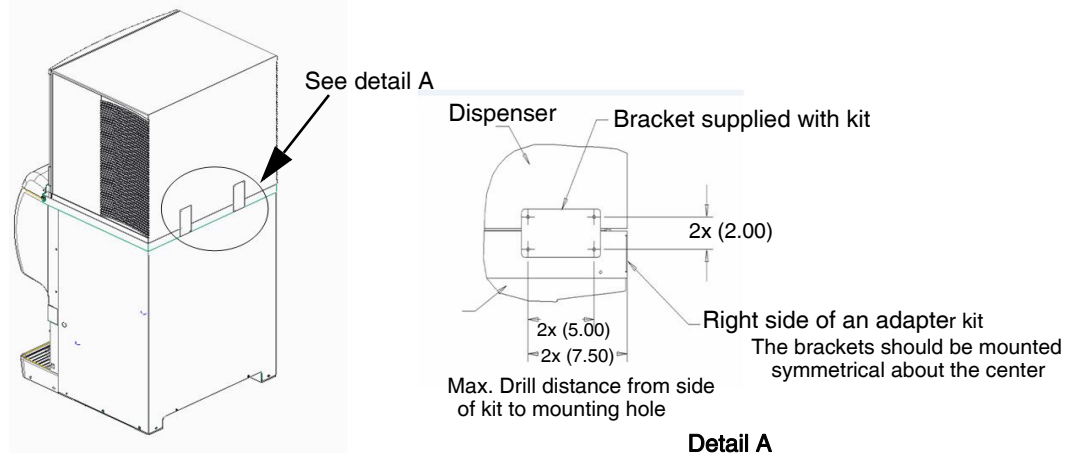

Figure 4. - Ice Maker Security Bracket Installation Kit
Note the following before drilling holes and refer to Figure 4.
- When drilling holes, the maximum distance from the side of the kit is 7.5", refer to Figure 4. Failure to comply will result in damage to the sliding arm mechanisms internal to the kit